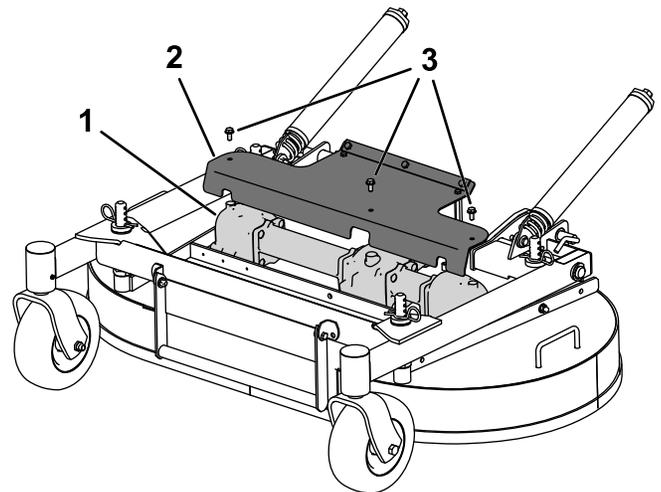

Figure 34
3. Remove the guard to access the gearbox (Figure 34)